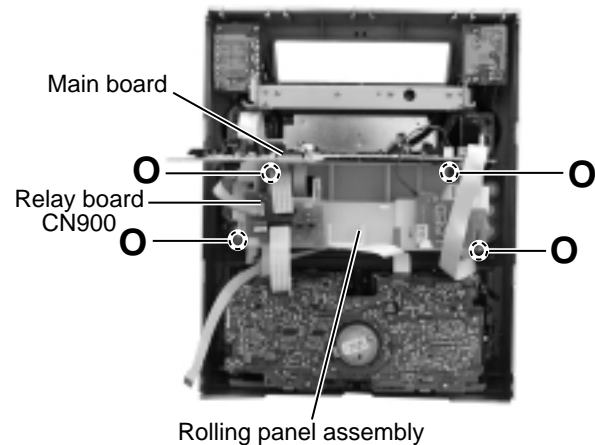

Fig.13
■ Removing the rolling panel assembly (See Fig.13 and 14)